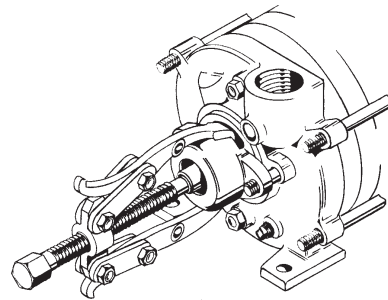

Figure 4-1
3. The bearing arm (#3) may now be removed. A gear puller may be necessary. (refer to figure 4-1) The outboard ball bearing (#24) should now be removed. A gear puller will need to be used for this operation. If the bearing can be removed too easily, a worn bearing surface may be indicated. Replace the shaft and bearing as necessary before reassembly.
since the bearing (#24) is held in the bearing arm by means of a snap ring (#4). Removal of the bearing arm will bring the bearing along with it.(see figure 4-1)